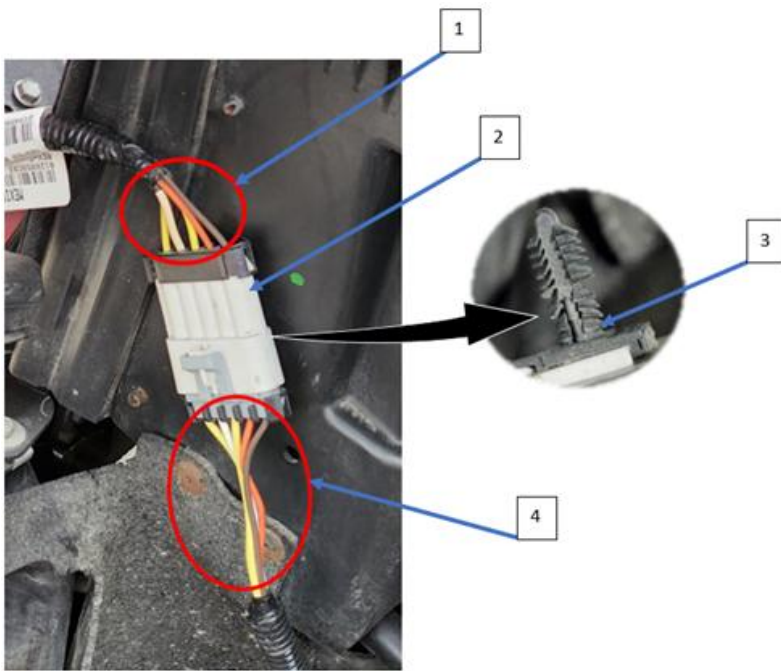

Figure 1. Driver-Side Headlight Assembly Harness
7. Carefully remove fir tree (Figure 1, Item 3) with connector 8001F (Figure 1, Item 2) from radiator shield.
8. Inspect headlight assembly harness (Figure 1, Item 1) and forward chassis harness (Figure 1, Item 4) for any damage to the wires.